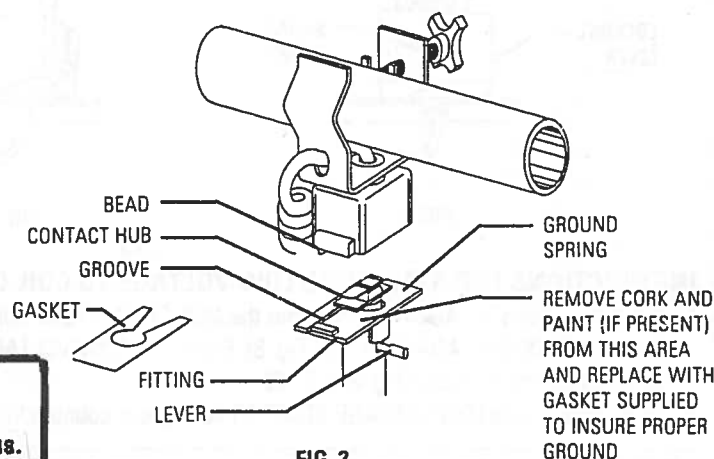

FIG. 2
1. Position LEVER as shown in Fig. 2.
2. Align BEAD on MONOPOINT ADAPTOR with GROOVE in "T" adaptor, see Fig. 2 (If BEAD is NOT aligned, a potential hazard may result). Rotate LEVER 90 degrees to secure Lytespot.